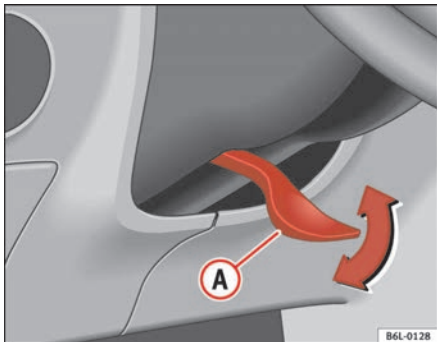

Fig. 93 Adjusting the steering wheel position
- Push the lever under the steering column ⇒ fig. 93 down ⇒ ⚠.